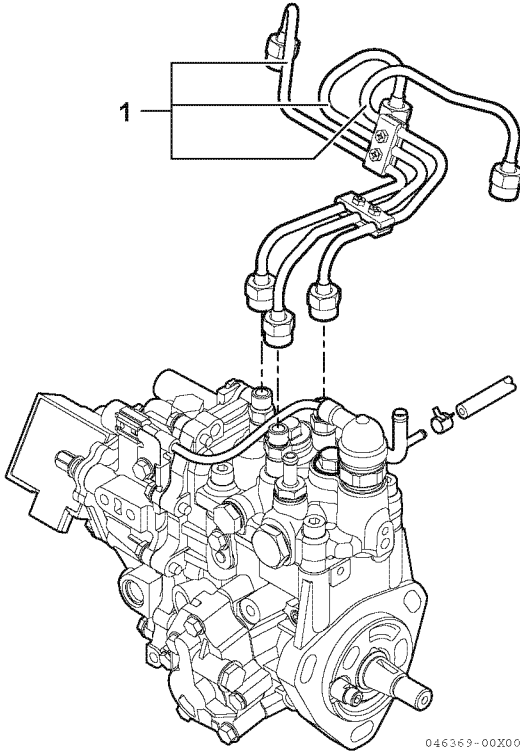

Figure 7-41
2. Remove the high-pressure fuel injection lines as an assembly (1, **Figure 7-41**).